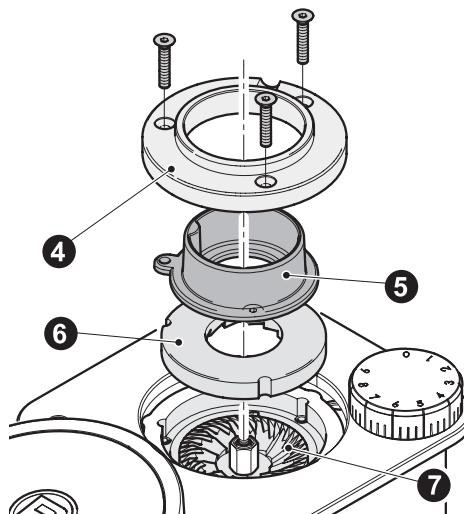

fig. 8.2
flange (4 - fig. 8.2) and extract it. Remove the rubber collar (5) and the upper grinder blade (6) so as to expose the grinding chamber (7 - fig. 8.2).